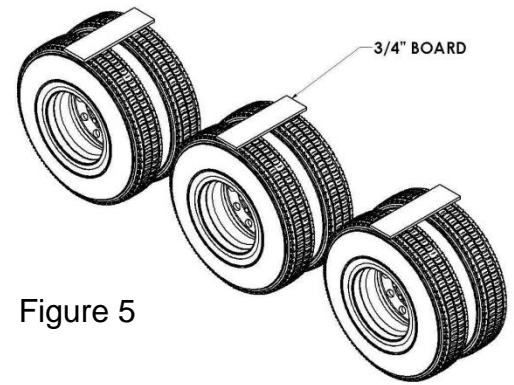

Figure 5
a. For an air suspension system, place a $\frac{3}{4}$ " board on top of the tires after the air has been let out of the airbags (Figure 5). Place the fender on top of the board.